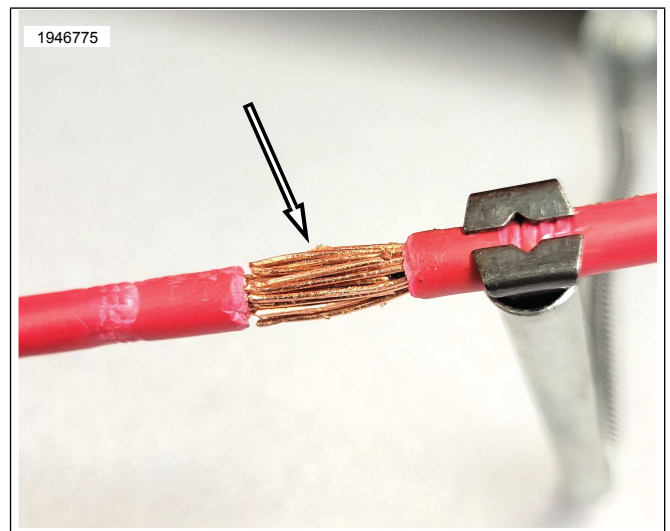

Figure 16. Prep 2: Interlock Striped Wires
- d. See Figure 16. **PREP 2:** Interlock striped wires.